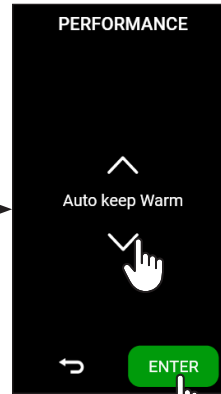

fig.11
- Select the desired performance mode (for details of each mode see par. 4.9.1.c) (Fig.11);